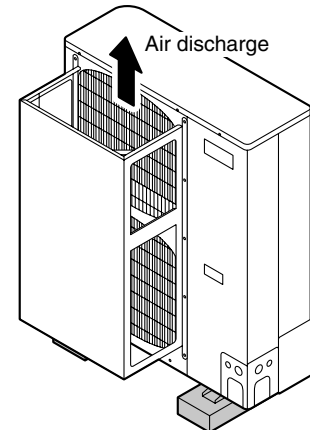

Fig. 2-12
- the air discharge outlet is facing a sidewalk and discharged hot air may annoy passers-by. Refer to Fig. 2-12.